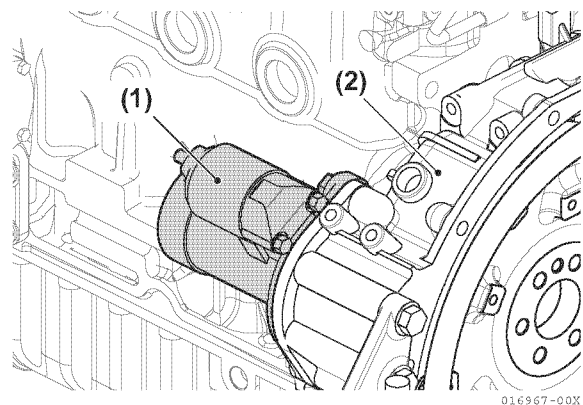

Figure 5-190
55. Install the starting motor in the flywheel housing (**Figure 5-190**).